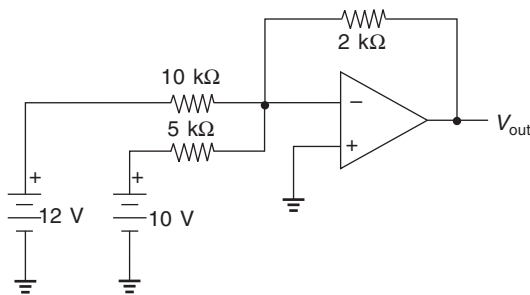

Fig. 17.4
17.12 Find V_{out} in Fig. 17.4.